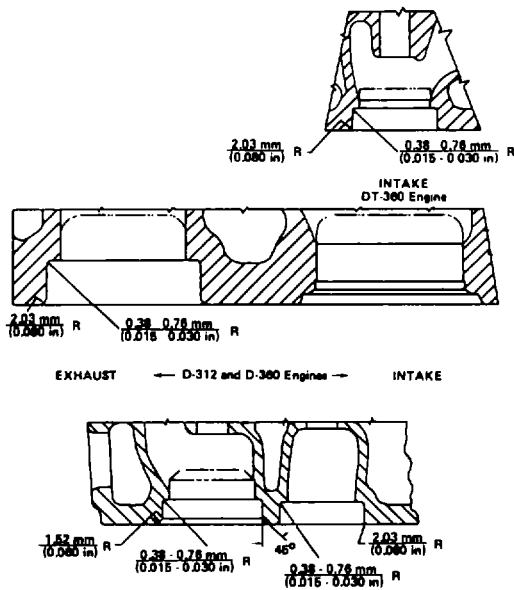

Figure 30. - Valve Seat and Insert Counterbore Radii
2. Maintain radii shown in Fig. 30 when enlarging counterbore for oversize inserts.
- 2. Place the valve spring, with the roto coil, in the spring tester. Place a bearing ball between the roto coil and ram of the spring tester, as shown in Fig. 30.